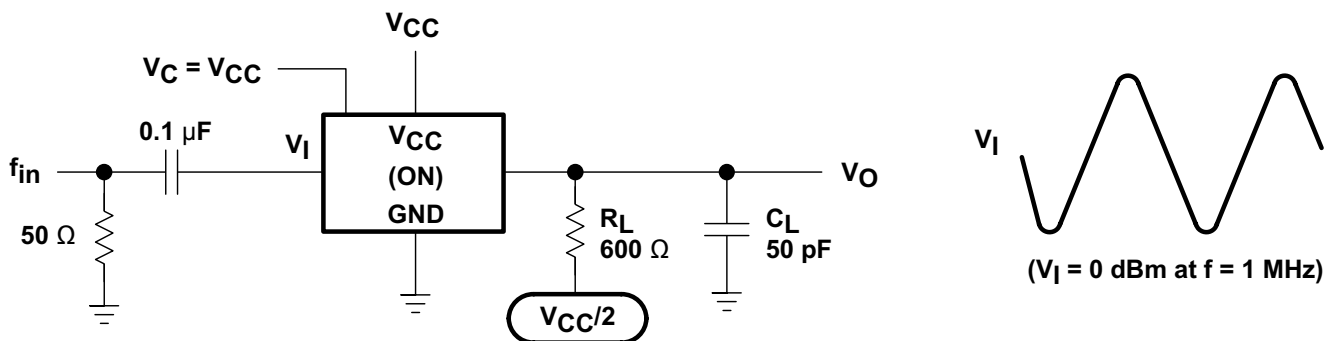

Figure 9. Minimum Through Bandwidth
| Minimum through bandwidth, A to B or B to A (1) [20 log (V O / V i )] = -3 dB | C L = 50 pF, R L = 600 Ω, V C = V CC (see Figure 9) | 30    | MHz  |